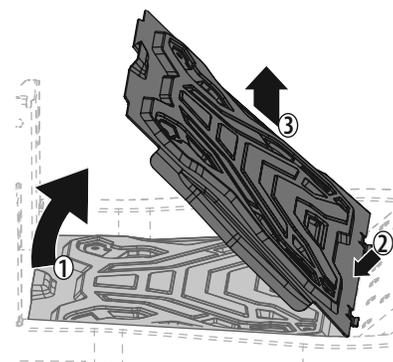

Figure 31
1. Carefully lift the rear of the floor panel. See 1 in Figure 31.
2. Slide the floor panel rearward to free the front of the floor panel. See 2 in Figure 31.
3. Lift it off the tractor. See 3 in Figure 31.